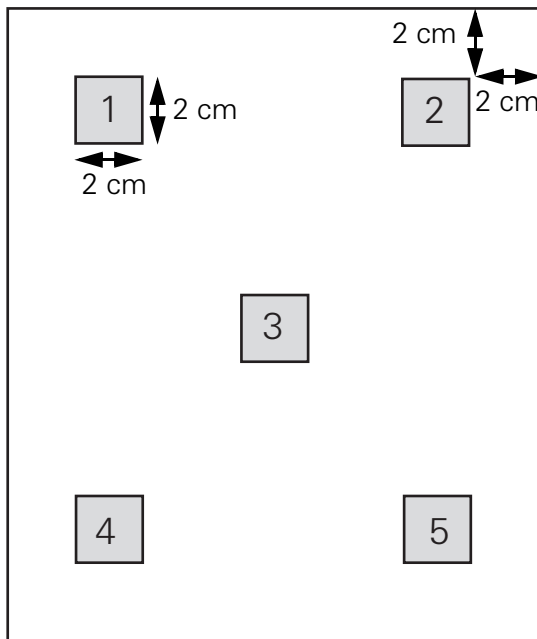

Figure 3 ROIs on the detector
8. Move this ROI subsequently to each of the five positions indicated in Figure 3. If helpful switch off image text, menu **View > No Text**.